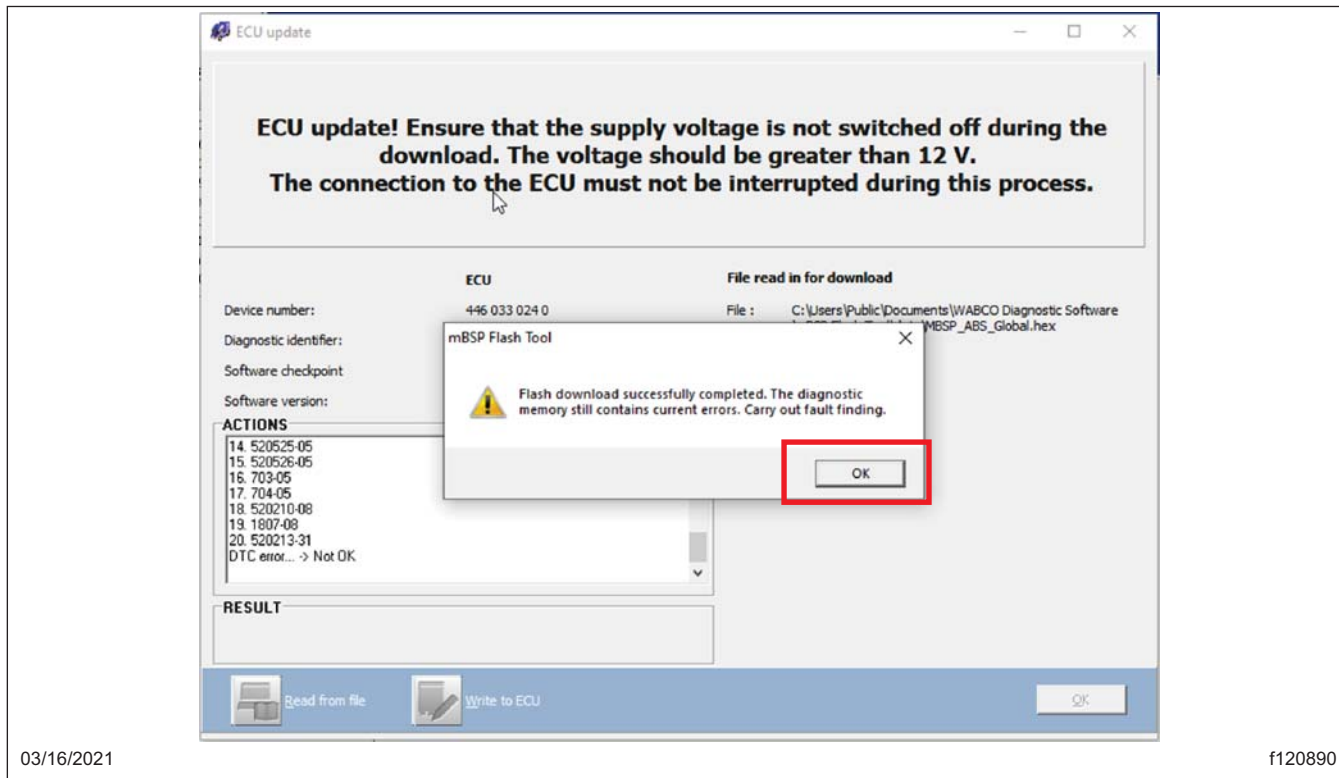

Fig. 9, Carrying Out Fault Finding
16. Once the ECU update is complete, some ECU errors may be present. Select 'OK' and close the flash tool and start calibration mode. See Fig. 9.